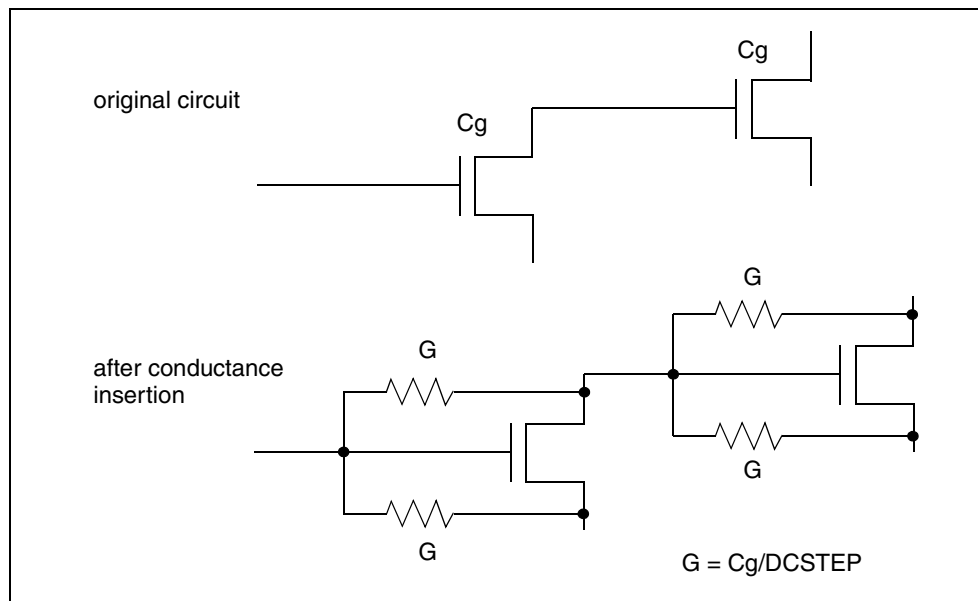

Figure 43 Conductance Insertion
In Figure 43 on page 445, HSPICE inserts conductance (G), in parallel with capacitance (C_g). This provides current paths around capacitances, in DC analysis.